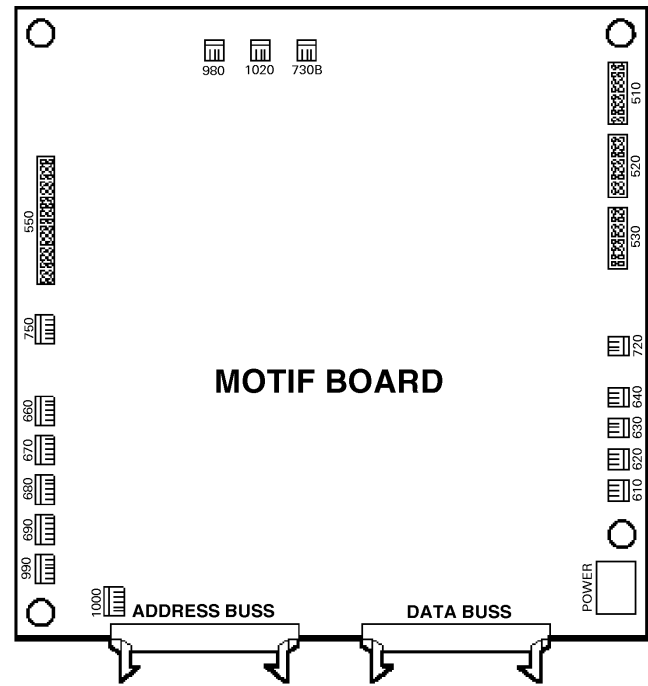

Fig. 4-1 Motor Interface board.
7. Reconnect all leads (previously removed) to their proper connections (refer to Fig. 4-1).